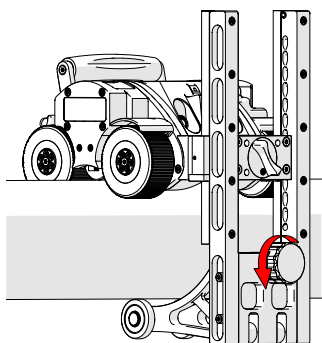

Fig. 8 - Loosen knob
1. Loosen the fine adjustment knob until the end of the threads are flush with the pin, or until there is adequate clearance to remove the crawler from the pipe (*Fig. 8*).